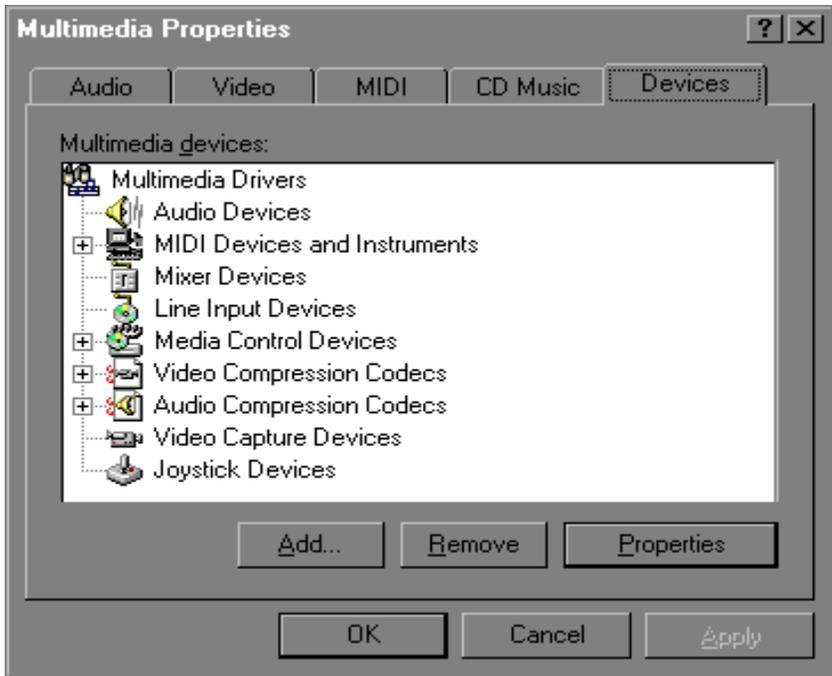

Figure 2-1. The Multimedia Properties window.
- 5) The Multimedia Properties window now appears as shown in Figure 2-1 below. Click on the **Devices** tab.